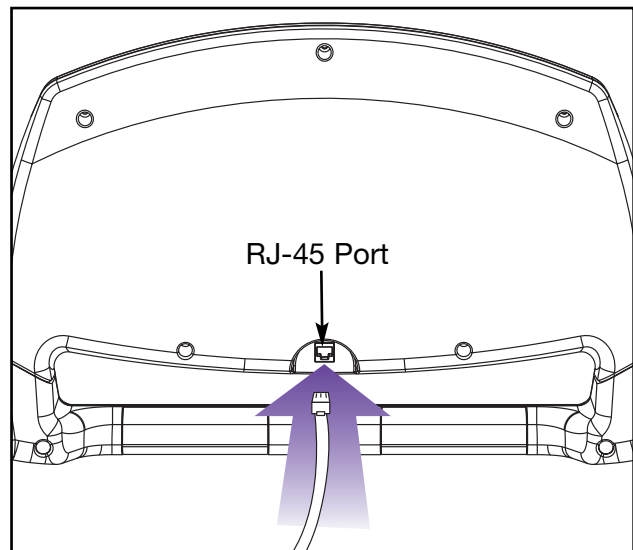

Figure 15
- A.** Connect the CPA cable that comes with your treadmill into the RJ-45 (8-pin) female connector located on the back of the console. See Figure 15.